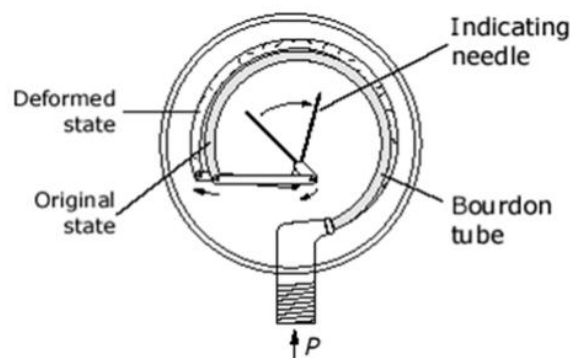

Figure 2
- I. **Bourdon Gauge:** The Bourdon Gauge (Figure 2) is fitted with a transparent dial, which lets you see the internal workings of the gauge. The gauge consists of a thin walled closed ended tube which is oval in cross section. This tube is bent through an angle of about 270° along its long axis. The open end of the tube is welded to a hollow mounting block which allows the pressurized fluid to reach the tube. This causes the pressure from the source to be transmitted directly to the inside of the bourdon tube. The applied pressure causes the oval tube to become rounder (since a round cross section has the maximum area for a given circumference). As it becomes rounder, the bourdon tube tends to uncurl which causes its free end to move. A system of linkages and levers transmits this motion to the gauge needle which moves over the scale.